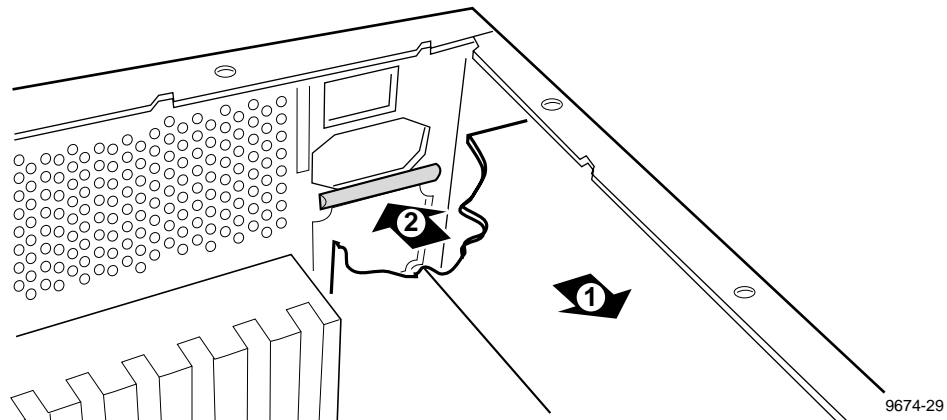

Figure 28. Installing the EMI Gasket
2. Refer to ❶ in Figure 28 and slide the power supply toward the front of the chassis approximately 1 inch.
4. Carefully slip the gasket into the chassis between the power supply and the rear panel and attach it to the chassis just below the power cord connector cut-out as shown at ❷ in Figure 28.